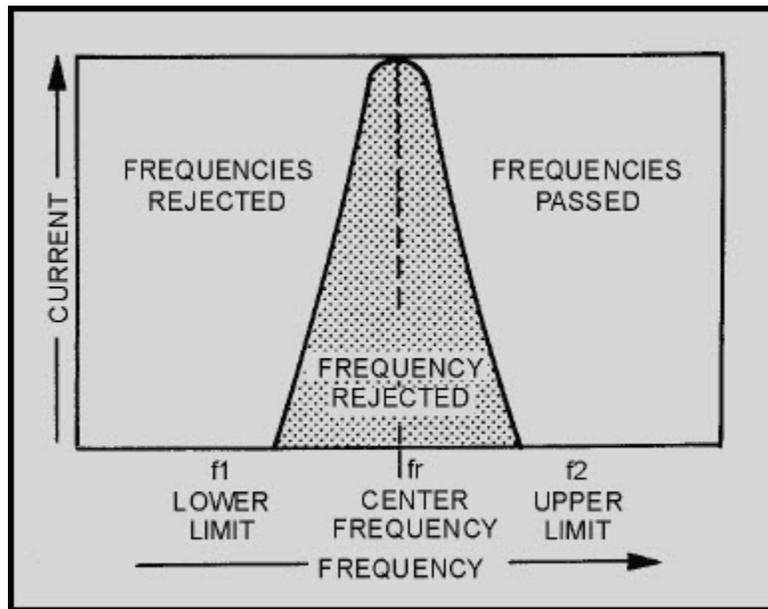

Figure 1-21 Band-reject filter response curve
A band-reject filter circuit is used to block the passage of current for a narrow band of frequencies, while allowing current to flow at all frequencies above or below this band. This type of filter is also known as a BAND-SUPPRESSION or BAND-STOP filter. The way it responds is shown by the response curve of figure 1-21. Since the purpose of the band-reject filter is directly opposite to that of a bandpass filter, the relative positions of the resonant circuits in the filter are interchanged. The parallel-LC circuit shown in figure 1-22, view (A), replaces the capacitor of figure 1-18, view (A). It acts as a band-reject filter, blocking the passage of currents having frequencies at or near resonant frequency and passing all currents having frequencies outside this band. The series-LC circuit shown in figure 1-22, view (B), replaces the inductor of figure 1-18, view (B). If this series circuit is tuned, to the same frequency as the parallel circuit, it acts as a bypass for the band of rejected frequencies. Then, the simplest type of band reject filter is obtained by connecting the two circuits as shown in figure 1-22, view (C).